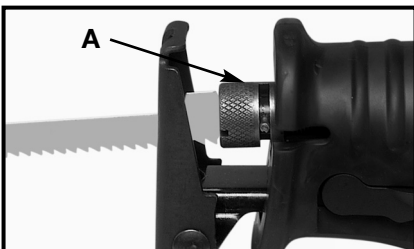

Fig. 4
1. The reciprocating shaft must be fully extended to permit access to the *Quik-Change*™ blade release collar (A) Fig. 4. If necessary, gently squeeze the trigger switch to move the reciprocating shaft to its outermost position (as shown in Fig. 4).
4. Insert the blade into the clamp until it bottoms. Allow the release collar to rotate clockwise to lock the blade in place, (A) Fig. 4.